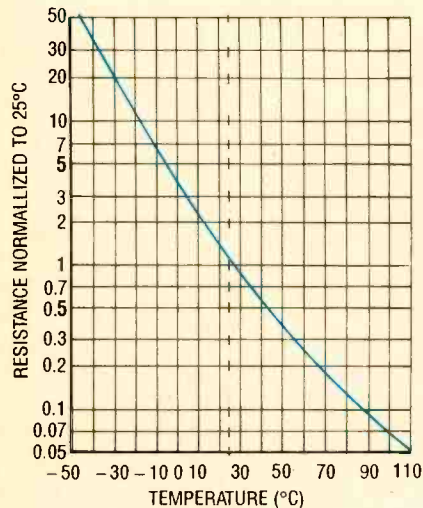

Fig. 1. Thermistors are not linear devices. However, they can be useful in hobbyist-level projects.
**Thermistor Behavior.** NTC thermistors are narrow-range, highly sensitive, and nonlinear. Figure 1 shows a typical resistance vs. temperature (R-T) characteristic curve, for a common ambient-temperature thermistor (useful for -80 to 150°C, or -112 to 302°F). Typical sensitivities are 3 to